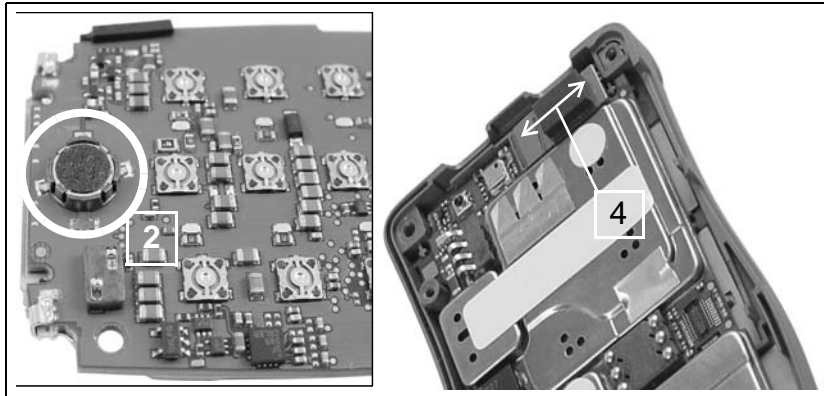

Figure 7-17.
4. Carefully attach Flip flex connector to board connector. Gently press flex connector back and forth until seated (see Figure 7-17).